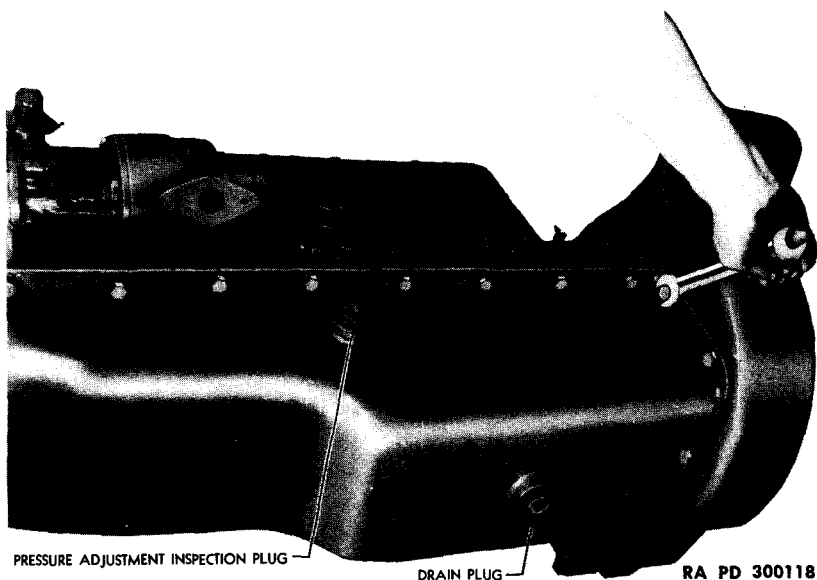

Figure 22—Removing Oil Pan
a. **Oil Pump Removal.** Remove oil pan (fig. 22). Remove three oil pump mounting screws that hold the oil pump to the main bearing